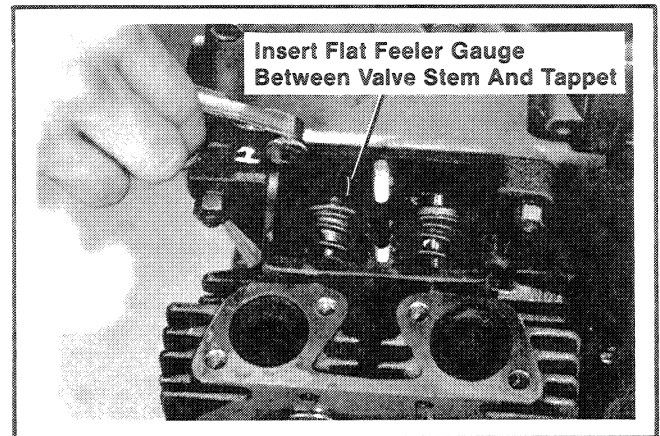

Figure 11-32. Measuring Valve-To-Tappet Clearance.
2. Install valves into valve guides for the cylinder in which **no movement** was observed. Hold valves firmly against seat and measure valve-to-tappet clearance with a flat feeler gauge. Refer to Figure 11-32.